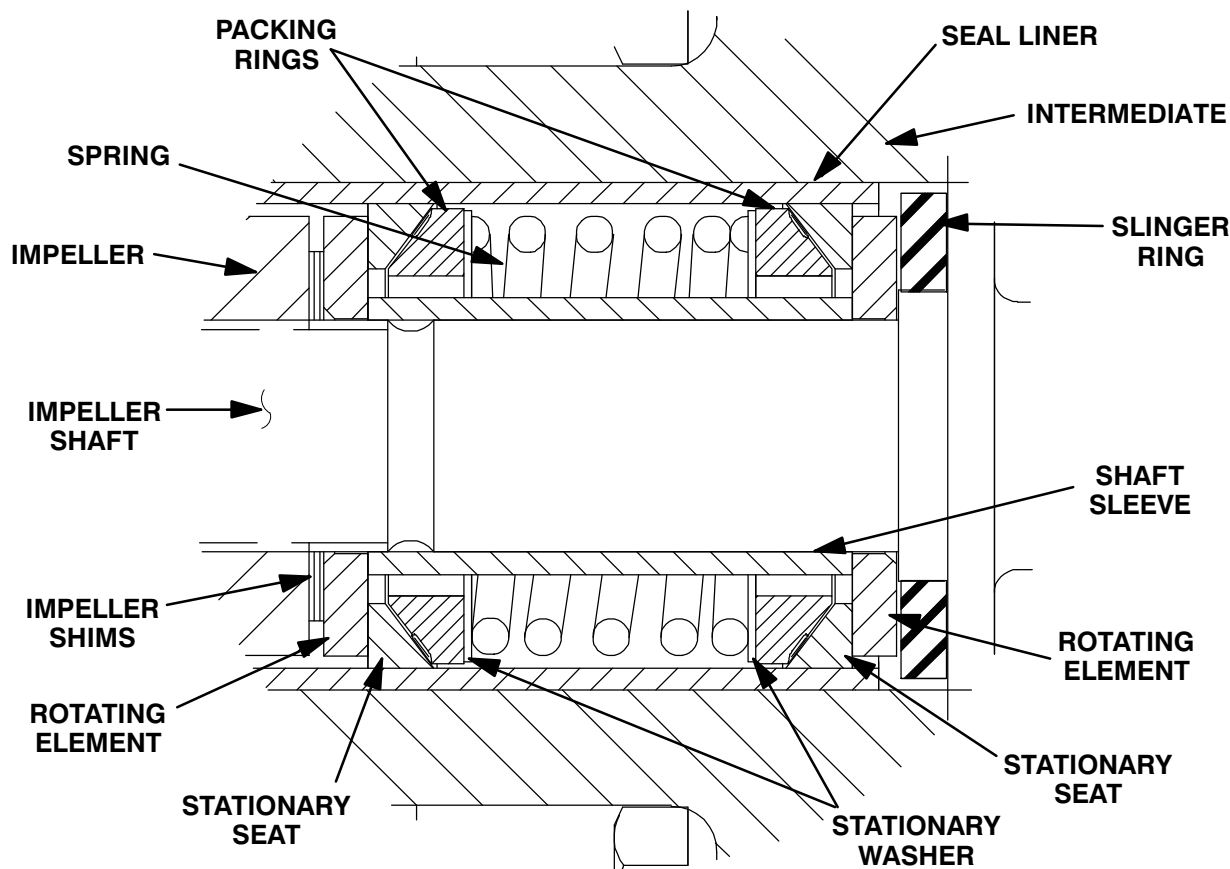

Figure 2. Seal Assembly
To ease installation of the seal, lubricate the packing rings and intermediate (24) with water or a very **small** amount of oil, and apply a drop of light lubricating oil on the finished faces. Assemble the seal as follows, (see Figure 2).